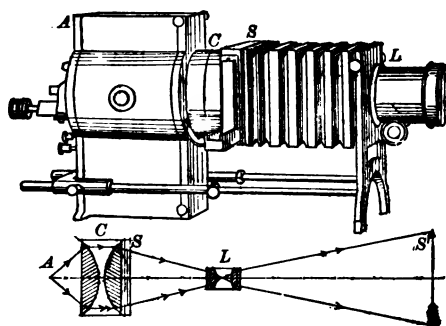

FIG. 179. — Stereopticon.
*Parts of a stereopticon.* The essential parts of a stereopticon are shown in Figure 179. These consist of a source of